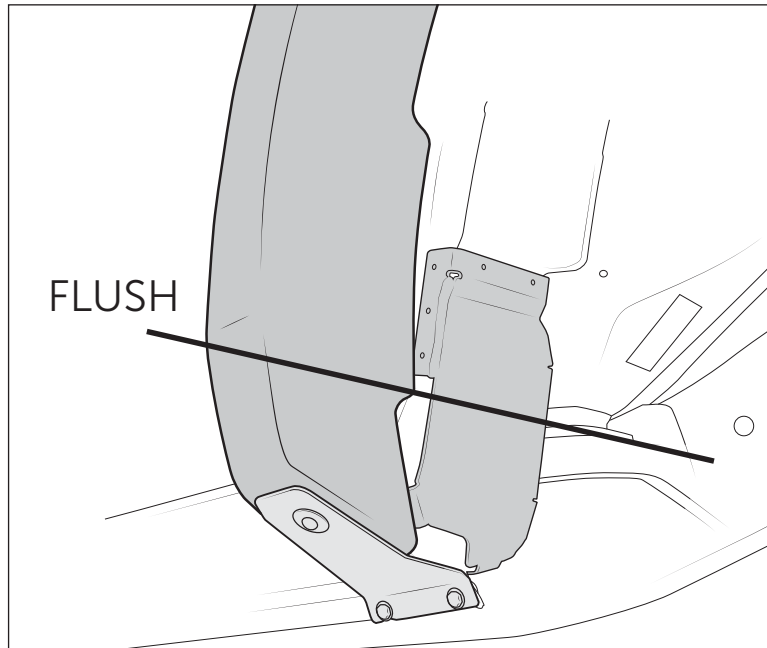

Figure 18
- G. To make sure there has been enough material removed loosely install flare with several fasteners. The closeout panel should be flush with face of flare within reason (fig. 18).